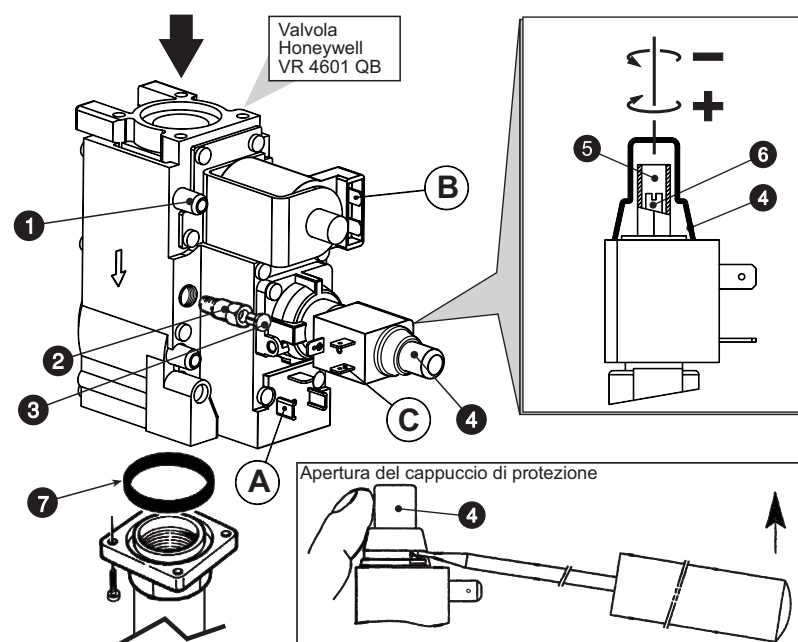

fig. 8 -
The operations for adjusting the pressure are done with the boiler working, using the pressure regulator on the 2-stage gas valves (see fig. 8).
3. Remove the pressure regulator protection cap 4 in fig. 8.
1. Turn the control thermostat knob slowly clockwise to the 1st click; the gas valve will thus be fed only on connections A and B (see fig. 8).
2. Turn the screw 6 in fig. 8, checking that the pressure matches the values in the technical data table in par. 4.3.
1. Turn the control thermostat knob to maximum; the gas valve will now be fed on connections A, B and C (see fig. 8).
2. Turn the screw 5 in fig. 8, checking that the pressure matches the values in the technical data table in par. 4.3.
2. Remove the small cap 3 (fig. 8) from the gas valve, screw the ignition "STEP" regulator 2 (contained in the conversion kit) onto the valve and refit the cap 3 on the regulator.
Carry out the same operations described above, making sure to remove the ignition "STEP" regulator 2 in fig. 8 of the gas valve; the cap 3 of fig. 8 must be fitted directly on the valve.